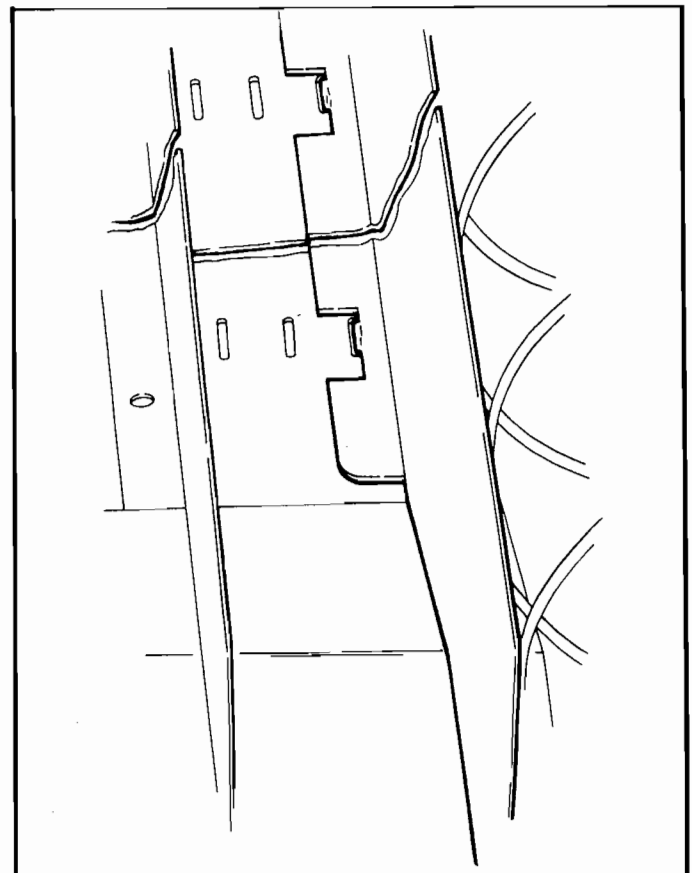

Figure 4. ALIGNMENT OF MOVEABLE PRODUCT SPACERS.
5. **PRODUCT SPACERS—4 SELECTION SHELF:** A product spacer is used to reduce the width of the product area and should be used on any 4-selection snack shelf where the product width is 4½" or less. Spacers should fit within 1/8" of the product but should not fit tight against the product. There are three positions in each snack space where these spacers can be placed. To install the spacer, align the lock ears (on the lower edge of the spacer) with one of the three sets of slots (one front and one rear). (See Figure 4). Push the spacer to the rear to allow the ears to enter the slots, then allow the spacer to move forward. Be sure the ears are in the same set of slots, front and rear. (See Figure 4). Continue loading all spirals adjust with spacers where needed in the top shelf. Return the top shelf to the vend position and following this procedure load the remainder of the large spiral shelves. The shelf divider separating the right (lock side) column from the next column is movable to allow vending of products wider than 5½" in the second column. If this is used the right column must be used to vend a narrower product.